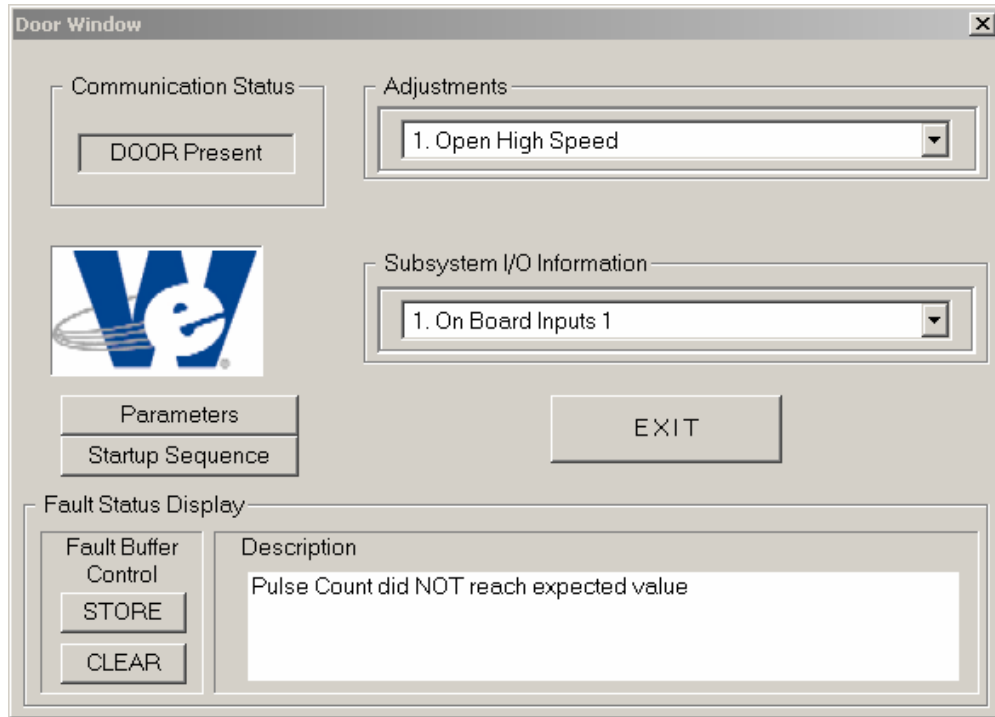

Figure 27
The lower section of the Door Window contains an area titled **Fault Status Display**. The Fault Status Display as shown in Figure 27 is broken into two (2) sections. The first section, **Fault Buffer Control**, contains two pushbuttons that control whether the 6300GE Door Operator Board retains faults or immediately dumps them. These pushbuttons are labeled **STORE** and **CLEAR**. The second section of the Fault Status display, labeled **Description**, lists all current faults for the 6300GE Door Operator Board the FREEDOM Tool Software Module is in communication. The most current fault would be at the top of the list. When more faults are in the buffer than can be displayed in the Description window, scroll arrows will appear on the right side of the Description field. Appendix D on Page 37 lists the faults that can appear within the description pane of the Fault Status Display.
Two pushbuttons are located underneath the WORLD electronics logo on the Door Window. Refer to Figure 27. These pushbuttons allow the user to see and adjust the current door motor encoder counts for the travel of the door from open to close. These buttons are labeled **Parameters** and **Startup Sequence**.